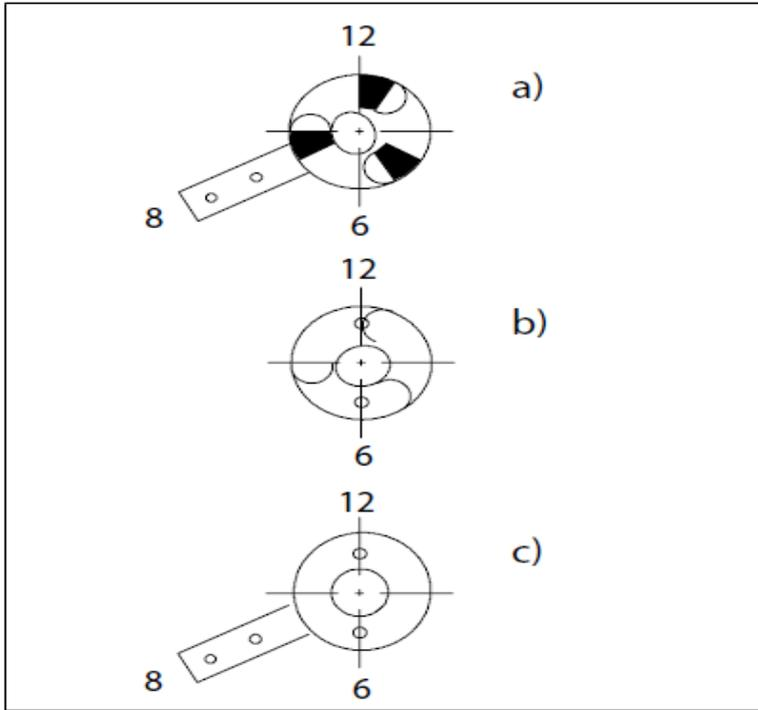

Fig. 20.
Make sure that the both pressure bearings are installed in a correct position, that is, the bearing with bigger internal diameter should be facing the cable drum (figure 21). Make sure that the position of the two clutch engagement halves is correct (fig. 20).
2. Grease the 3 slanted surfaces with vaseline and place the 3 rollers on the bottom of the slanted surfaces so that the thin ends point towards the middle. The other clutch engagement half (without handle) has 3 slanted surfaces on one side and two holes drilled on the other side (fig 20). Two studs on the back of the front plate will fit into these holes later on when the winch is assembled.
3. Place one clutch engagement half (without the handle) so that the halves bottom out when the handle is at 8 o'clock position and the two holes are at 12 o'clock and 6 o'clock (fig. 20). Be careful, there is only one correct position! Tape the halves together so that they will stay together when you mount them on the drum axle.